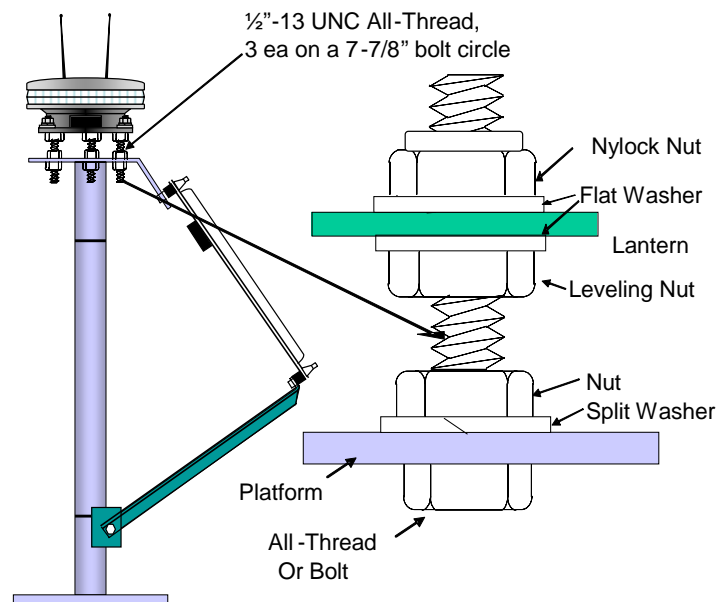

Figure 3-26.
- d. On structures, secure three ½” stainless steel bolts (or all-thread) to the structure’s mounting plate as shown in Figure 3-26. Install three leveling nuts and flat washers on the bolts so that about 1” of thread is exposed. Place the lantern on top of the leveling nuts, and then install the flat washers and nylock nuts at the very upper end of the thread. Do not tighten these uppermost nuts – they are positioned at this time to ensure that the lantern doesn’t fall off. Level the lantern on structures by adjusting the leveling nuts (use a torpedo level on the top of the lens) - use the “T” method. When the lantern is level, tighten the nylock nuts.